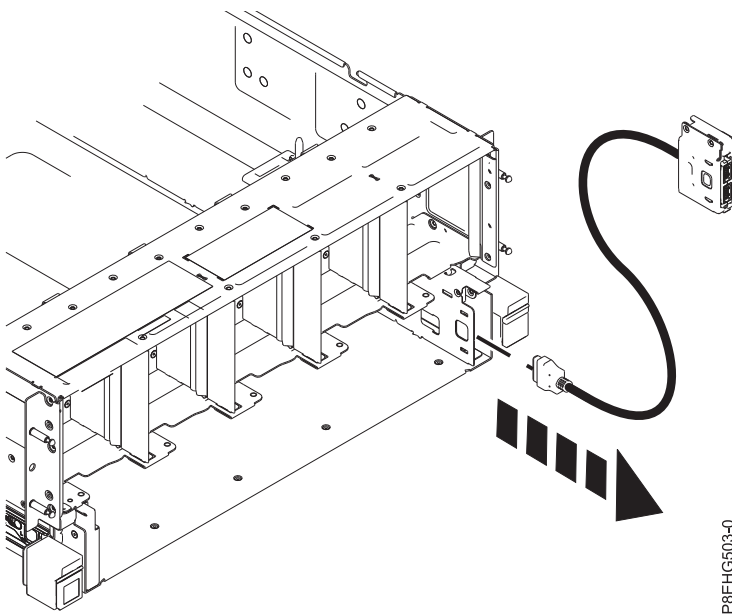

Figure 10. Removing the front USB cable
- c. Pull the USB cable out of the front of the system. Ensure that the other end of the cable does not catch on any components or any sharp edges of the chassis. See Figure 10.